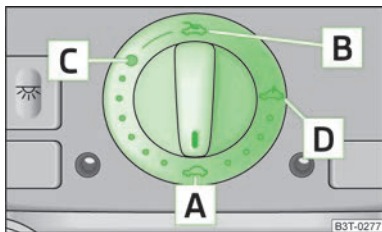

Fig. 25
The sliding/tilting roof is operated by means of the control dial » Fig. 25 and only functions when the ignition is switched on. The control dial has several positions.
If the battery has been disconnected and reconnected, it is possible that the sliding/tilting roof does not close fully. This is why the rotary switch must be set to the switch position **A** » Fig. 25 and pressed forward for about 10 seconds.
- > Turn the switch to position **C** » Fig. 25 on page 43.
- > Turn the switch to position **B** » Fig. 25 on page 43 and hold it in this position (spring-tensioned position).
- > Turn the switch to position **D** » Fig. 25 on page 43.
- > Turn the switch to position **A** » Fig. 25 on page 43.
The sliding/tilting roof is fitted with a force limiter. If an obstacle (e.g. ice) prevents closing, the sliding/tilting roof stops and opens completely. The sliding/tilting roof can be closed completely without the force limiter by turning the switch into position **A** » Fig. 25 on page 43 at the front for as long as it takes for the sliding/tilting roof to close completely » **!**
It is necessary after each emergency operation (using the Allen key) to move the sliding/tilting roof into the basic position. This is why the rotary switch must be set to the switch position  » Fig. 25 on page 43 and pressed forward for about 10 seconds.